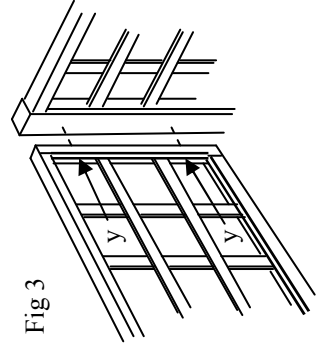

Fig 3
- 6 The back trellis should now be fitted. Use two screws **Y** either side to fix to the side section posts as Fig 3.